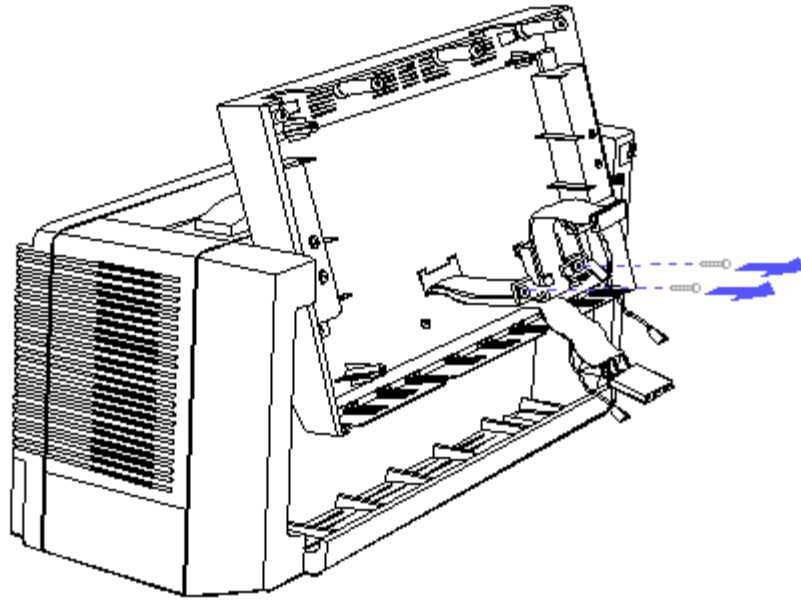

Figure 8-80. Removing the Strain Relief Clip Screws
3. Remove the two screws that secure the strain relief clip to the display enclosure (Figure 8-80).